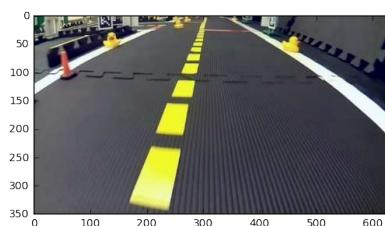

Figure 13.5. Cropped image
1. In a first step we crop this picture to make our algorithm a little bit more efficient and due to our limited velocities, it makes no sense to detect obstacles which are not needed to be taken into consideration by our obstacle avoidance module. However, we do not simply crop the picture by a fixed amount of pixels, but we use the extrinsic calibration to neglect all the pixels which are farther away than a user defined threshold, which is at the moment at 1.7 meters. So the amount of pixels which are neglected are different for every Duckiebot and depend on the extrinsic calibration. The resulting image can be seen in Figure 13.5. The calculations to find out where You have to cut the image are quite simple (note that it still bargains for homogeneous coordinates):